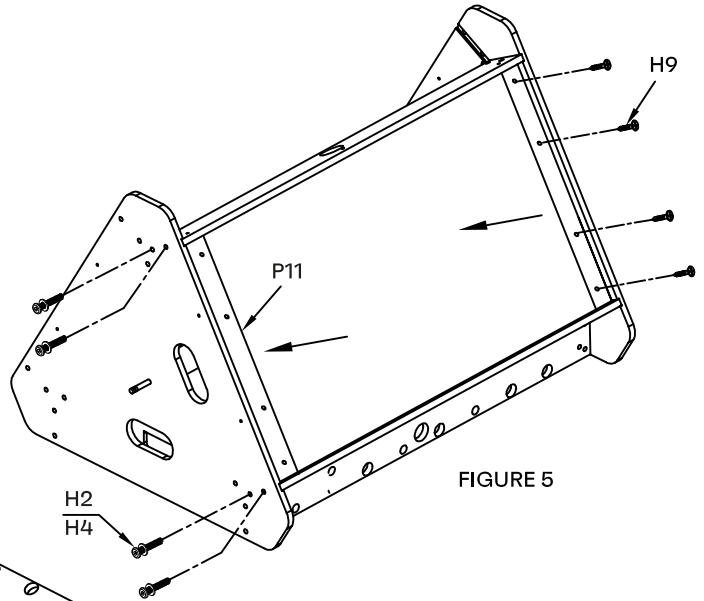

FIGURE 5
15. Insert the hockey table to the groove on the triangular panel and attach it with H2 and H4 as shown in figure 5 (do not over-tighten hardware).